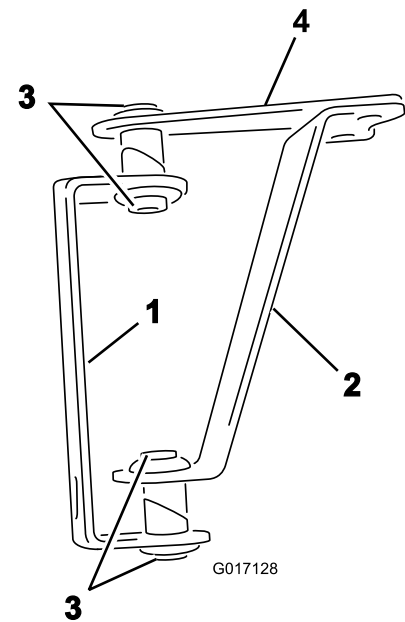
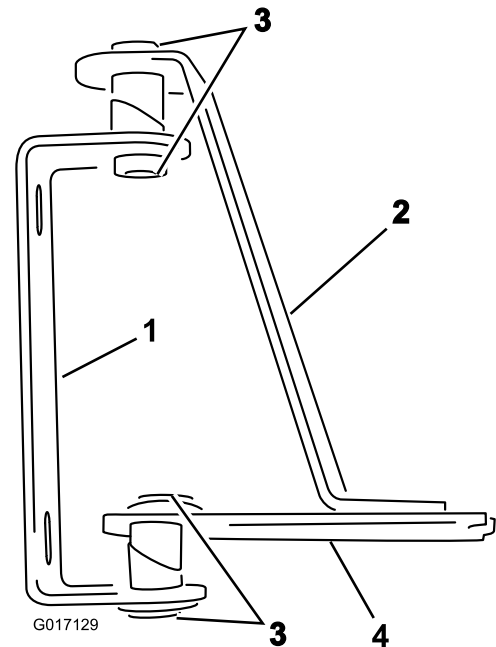

Figure 2
Figure 3
1. Lay out the hinges and straps as shown in Figure 2 (for an uncovered boom) or Figure 3 (for a covered boom).
2. Insert the bushings into the welded tube openings in the hinges and straps as shown in Figure 2 or Figure 3.